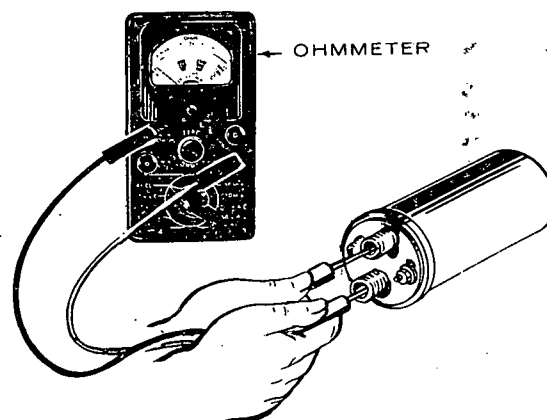

FIGURE 26. COIL TEST
3. Change resistance setting on ohmmeter. Place ohmmeter leads inside of spark plug cable holes (Figure 26). Secondary resistance should read 14,000 ($\pm 10\%$) ohms @ 70° F.